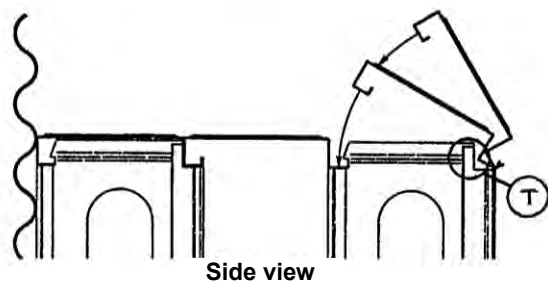

Fig. 5
7. Lay open channel of next floor plank on top of row of supports as shown in Fig. 5. Ensure plank is centered in bin and there is an equal distance from end of each plank to bin wall. Snap plank down into place. Check that all upper tabs of support are between channels of floor plank and are not exposed.